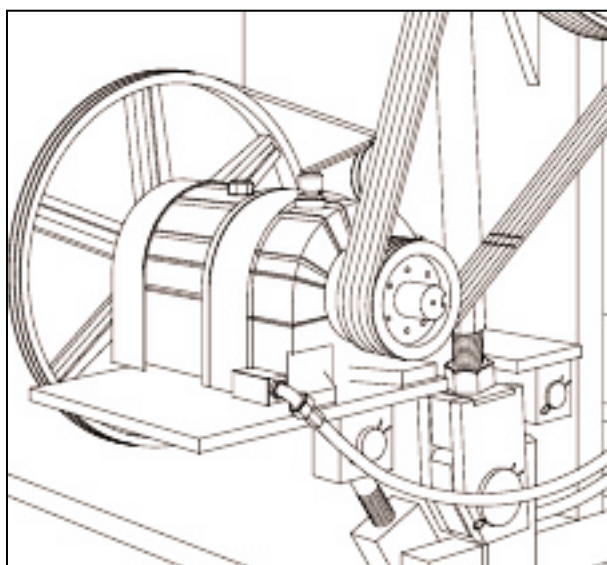

Figure 11.1
11.2.2 BESCODYNE CLUTCH/BRAKE UNIT (FIGURE 11.1)